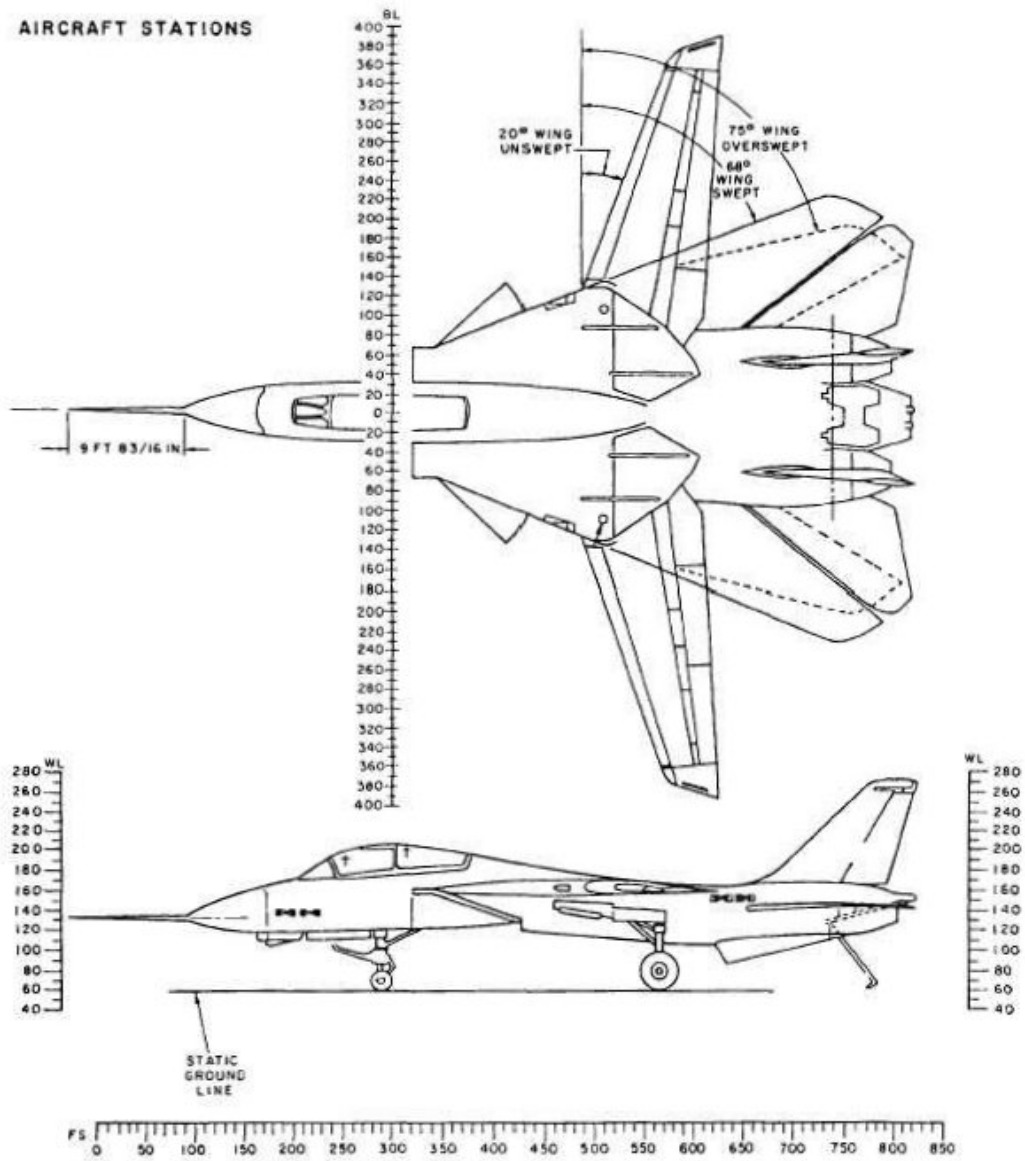

Fig. 7.1.1 Example of Drawing Axis System
Three airplane orthogonal axis systems are commonly in use for different applications. For drawings, the body axis system is used (Fig. 7.1.1) with the following characteristics:
1. Y-Z plane: Sections are usually called fuselage stations (abbreviated as FS, see Fig. 7.1.1), and the term is also applied to the cutting plane itself, as it is for the other two cutting planes.